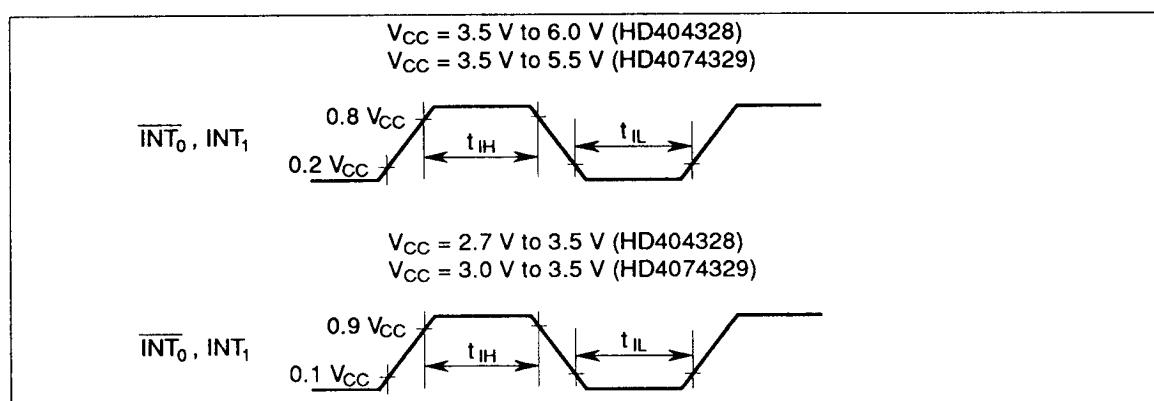

Figure 52 Interrupt Timing
5. Refer to figure 52. The t_{cyc} unit applies when the MCU is in standby or active mode.
6. Refer to figure 52. The t_{SUBcyc} unit applies when the MCU is in watch or subactive mode. $t_{SUBcyc} = 244.14$ μs (32.768-kHz crystal)